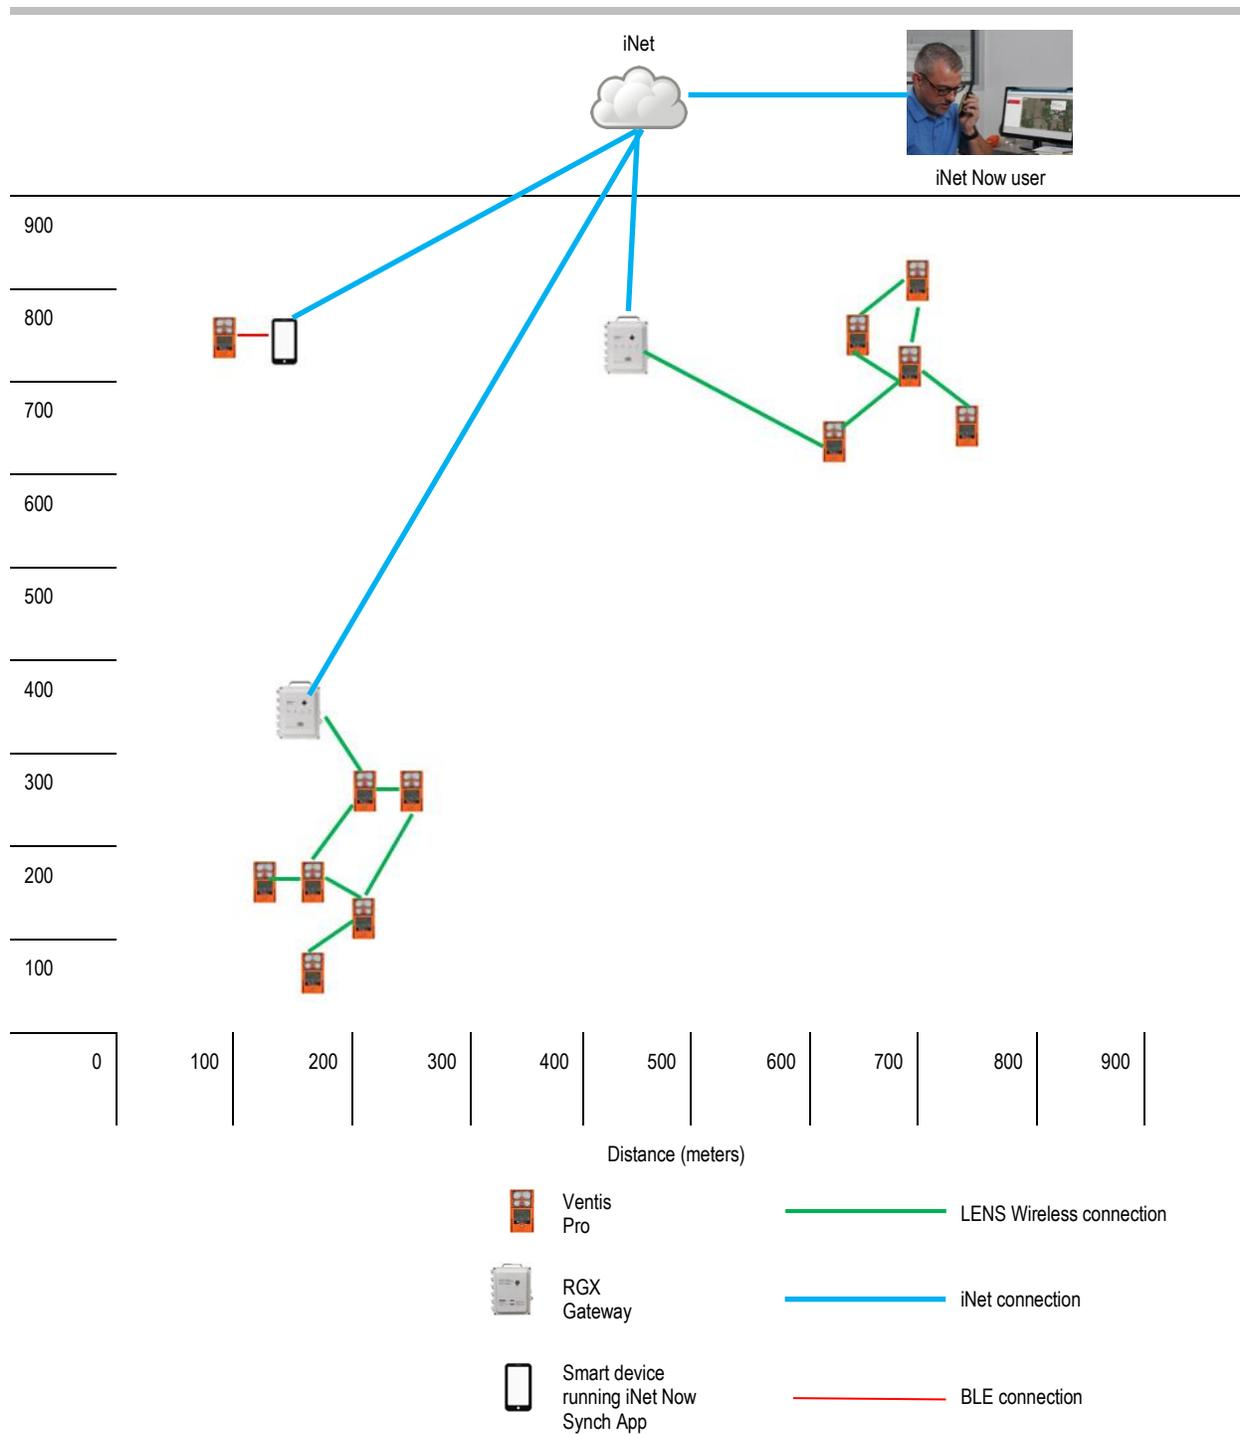

Figure 5.9 Sample live-monitoring application
*iNet Now*, a service of Industrial Scientific, is part of a wireless system that enables the live monitoring of gas-detection instruments. Instrument data travels wirelessly to iNet. From iNet, the safety team, using *iNet Now*, can learn on a live basis of in-field conditions including gas events and operator events like man-down and panic alarms. To view a sample live-monitoring application see Figure 5.9 below.